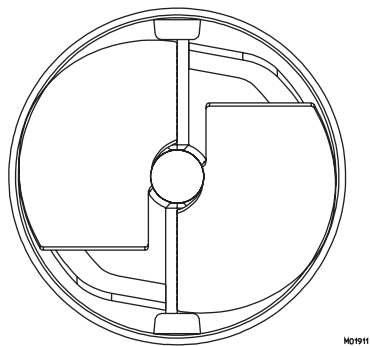

Figure 7-3 Scraper Blade Installation
5. See figure 7-3. Insert the assembled beater shaft into the cylinder by placing one blade on the bottom of the cylinder. This will center the beater and allow alignment with the drive shaft. Rotate the beater assembly while pushing, until the shank has engaged the drive shaft.